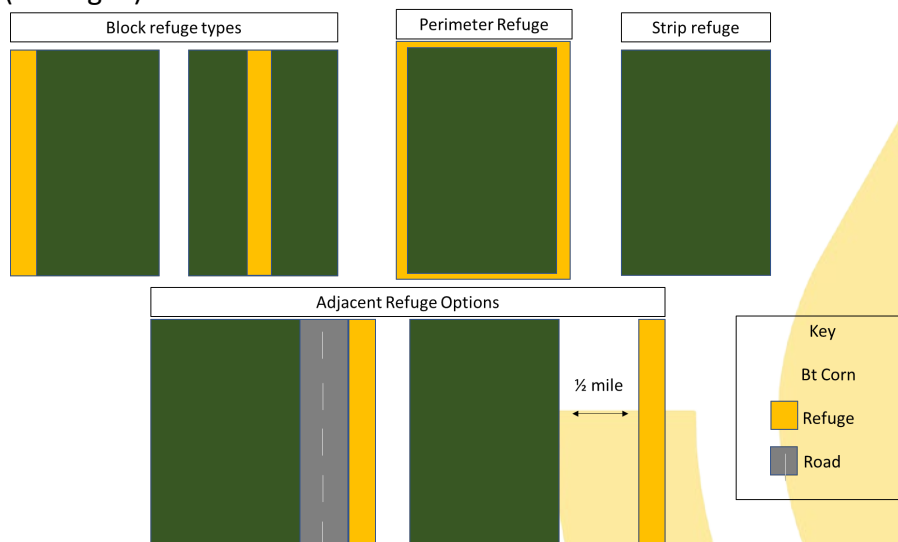

Figure 1. Refuge Planting Design Options
- Additional refuge planted must adhere to the extant terms of registration for Bt crops. (see Fig 1.)